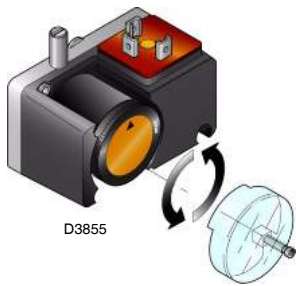

Fig. 23
- Adjust the minimum gas pressure switch (Fig. 23) to the start of the scale.